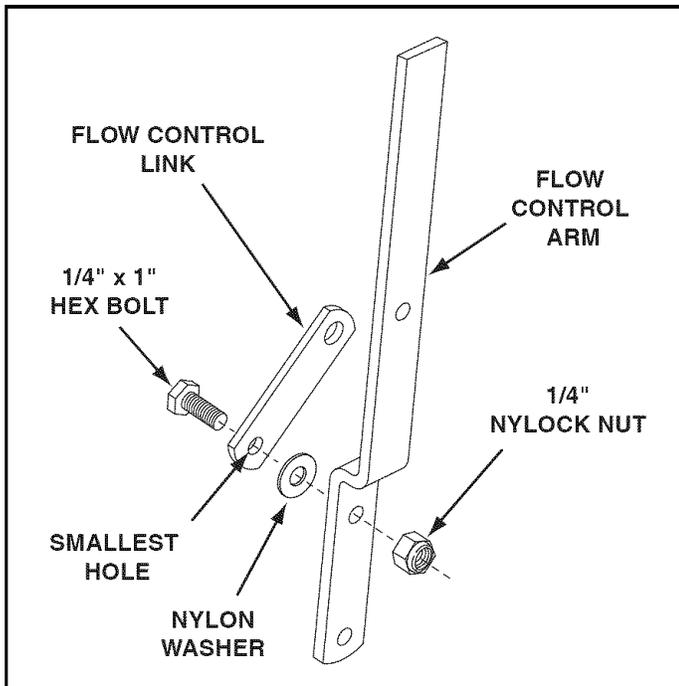

FIGURE 6
- Assemble the flow control link (end with small hole) to the flow control arm using a 1/4" x 1" hex bolt, a nylon washer and a 1/4" nylock hex nut as shown in figure 6. **Tighten carefully.** The flow control link should not be loose but should pivot with no more than slight resistance.